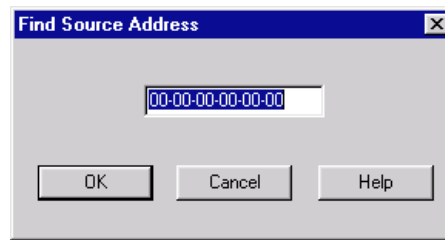

Figure 4-1. Find Source Address Window
2. Drag down to **Find Source Address...** and release. The Find Source Address window, Figure 4-1, will appear.